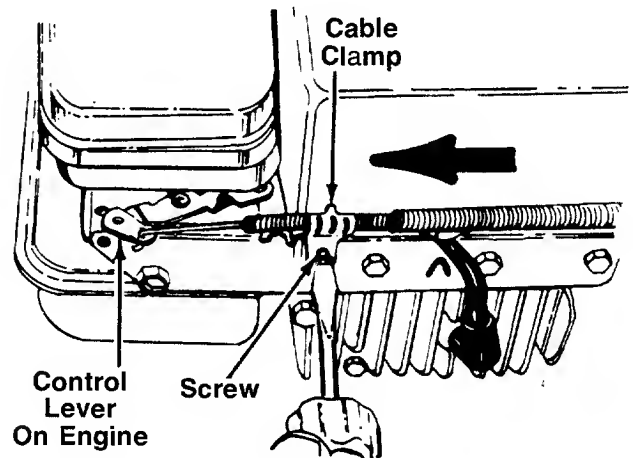

FIGURE 13.
1. Loosen (do not remove) the screw on the cable clamp so that the cable will move freely under the clamp. See figure 13.